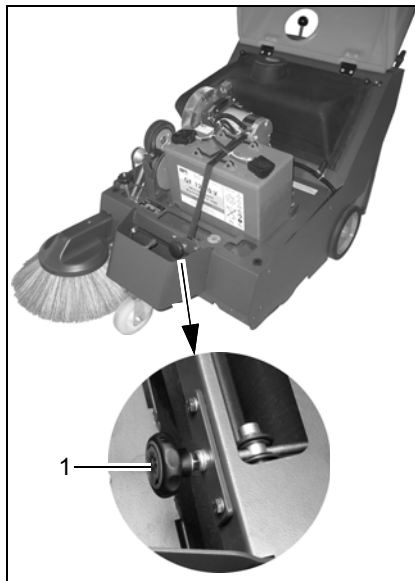

Fig. 21
7. Adjust the height of the rotary brush by means of the control knob (Fig. 21/1).